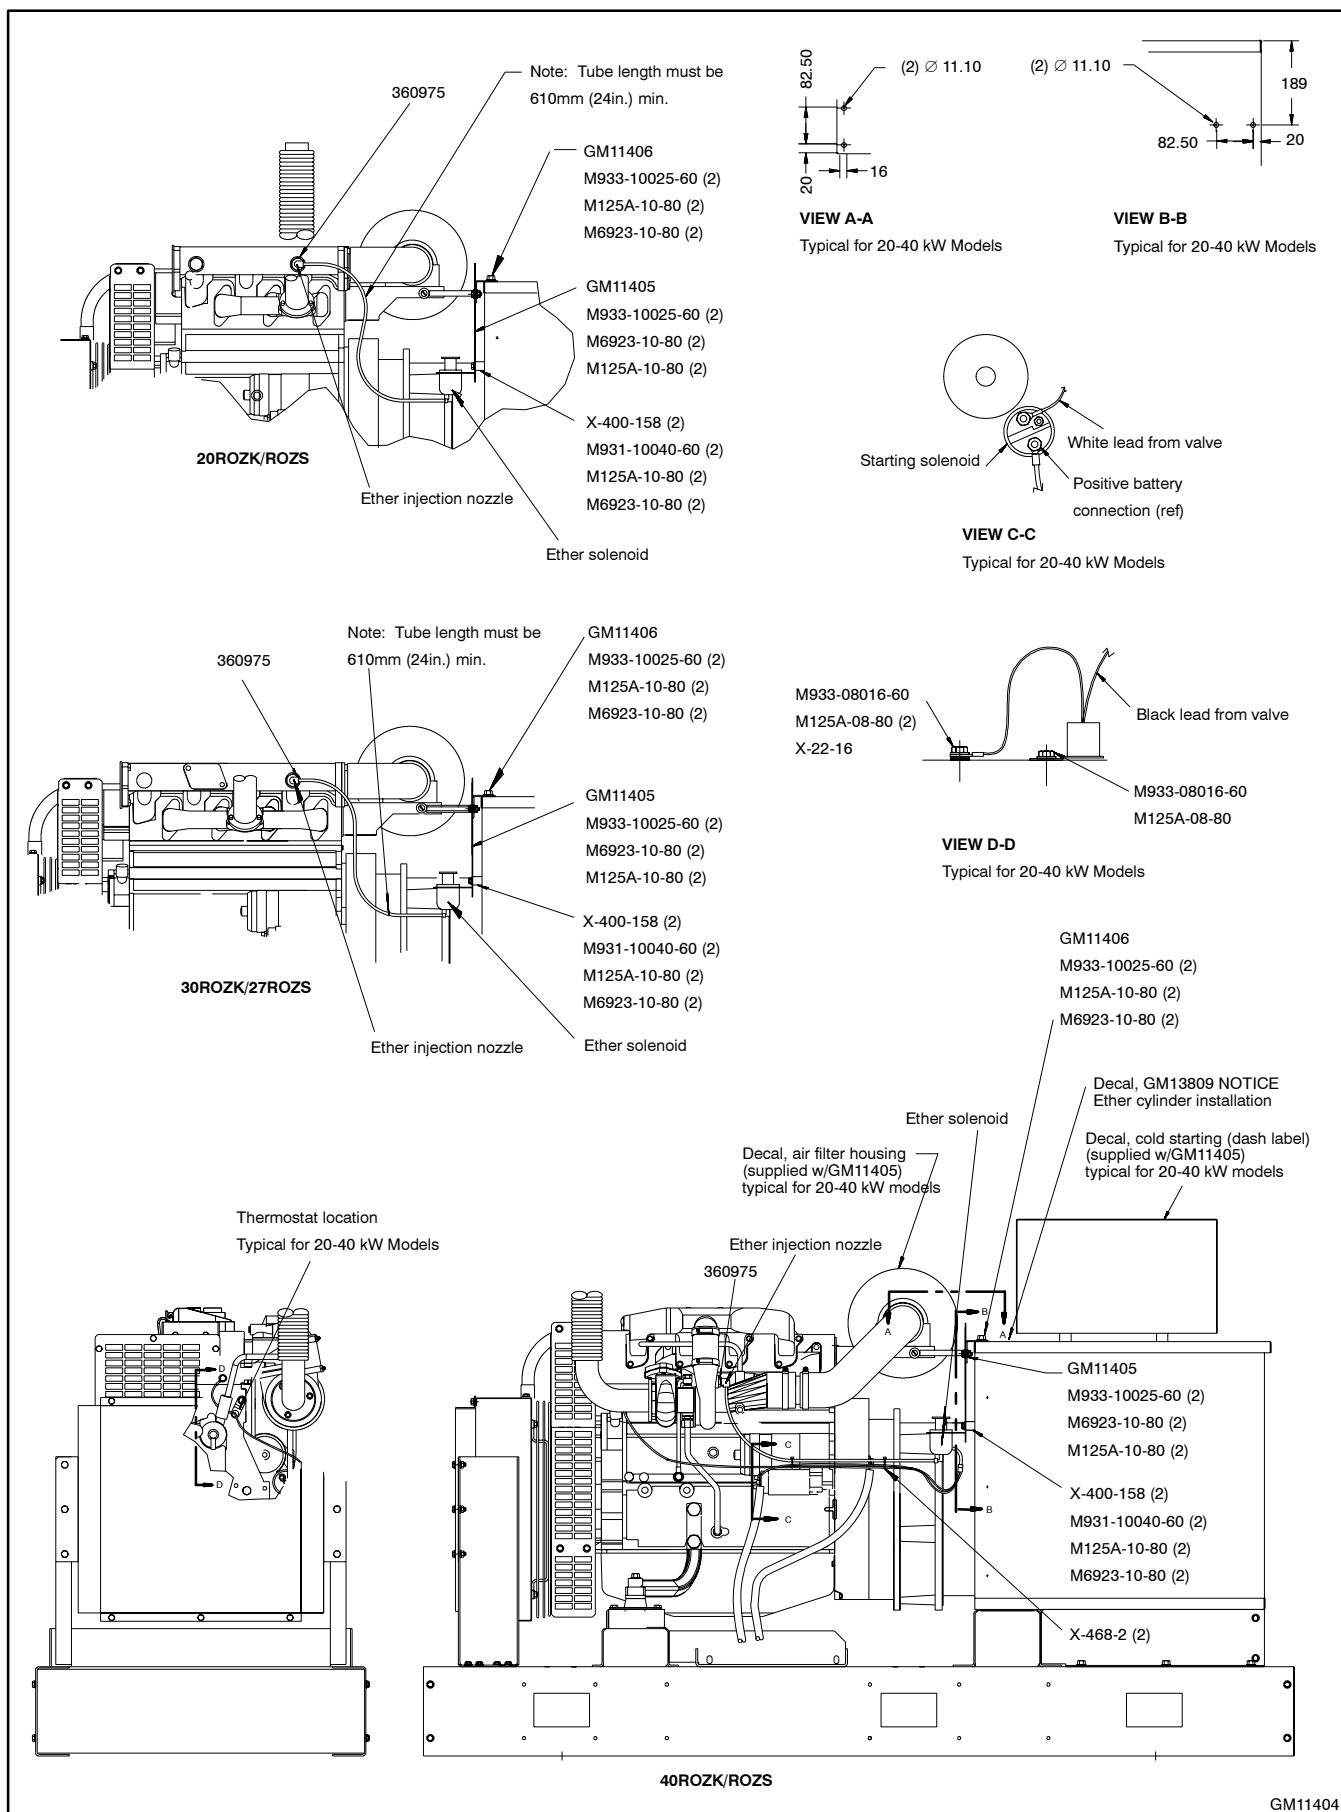

Figure 3 Ether Starting Aid Kit
3. Mount the cylinder bracket to the generator housing. See Figure 3, View A-A and B-B.
5. Connect the white lead from the ether valve to the starter solenoid as shown in Figure 3, View C-C.
6. Mount the temperature sensor to the engine block as shown in Figure 3, View D-D.
7. Route the high temperature tubing and connect the tubing to the ether injection nozzle and the ether solenoid as shown in Figure 3.
9. Clean and dry the surface of the controller cover and attach the cold starting decal to the cover. See Figure 3.
10. Clean and dry the surface of the junction box cover and attach decal GM13809 to the cover. See Figure 3.
11. Clean and dry the surface of the air filter cover and attach the air filter label to the cover. See Figure 3.